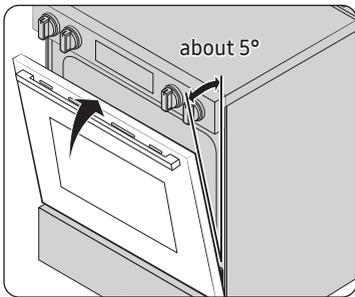

Fig.1
4. Close the door to the door removal position, which is approximately 5 degrees from vertical (Fig.1).